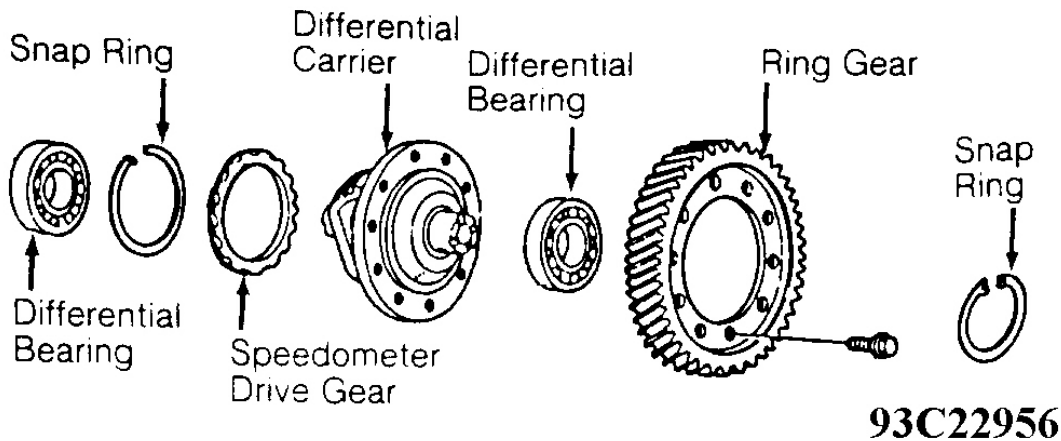

Fig. 32: Exploded View Of Differential Assembly
4. If removing speedometer drive gear, remove snap ring, speedometer drive gear and dowel pin. See **Fig. 32** .